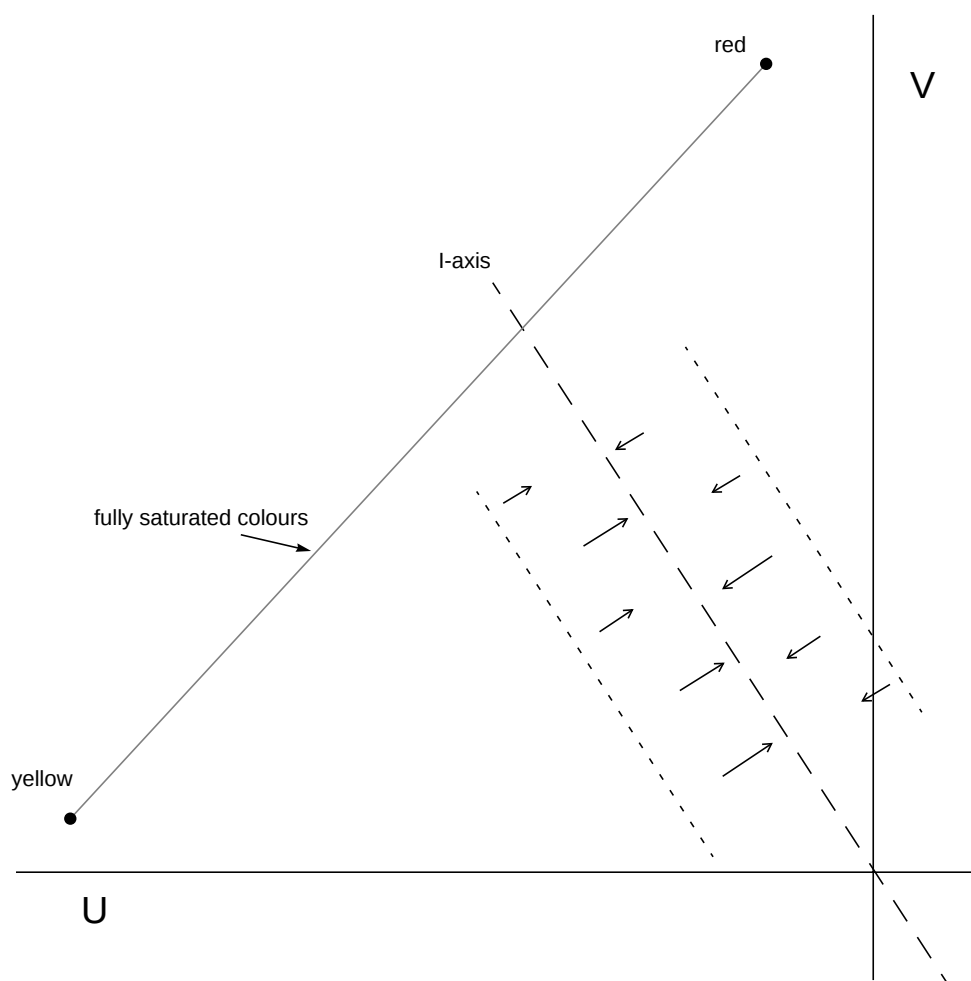

Fig.20 Skin tone correction range for a correction angle of 123 deg.
46. The Dynamic Skin Tone Correction circuit is designed such that it corrects (instantaneously and locally) the hue of those colours which are located in the area in the UV plane that matches to skin tones. The correction is dependent on the luminance, saturation and distance to the preferred axis and can be realised for 2 different angles. This angle can be set by means of the DSA bit. Because the amount of correction is dependent on the parameters of the incoming YUV signal it is not possible to give exact figures for the correction angle. The correction angle of 45 (± 22.5) degrees is just given as an indication and is valid for an input signal with a luminance signal amplitude of 75% and a colour saturation of 50%. A graphical representation of the control behaviour is given in Fig.20.